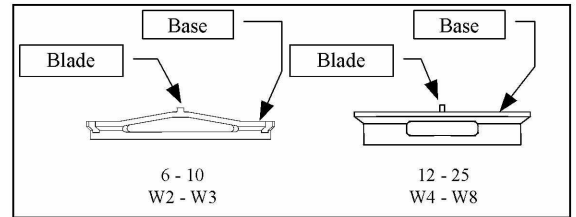

Fig. 6 - Shapes of gauge rings
- The P Series Super 300 Type Pillar Fitting is provided with a gauge ring to facilitate controlling the tightening range and limit, thereby ensuring safe and proper tightening (see Fig. 6).